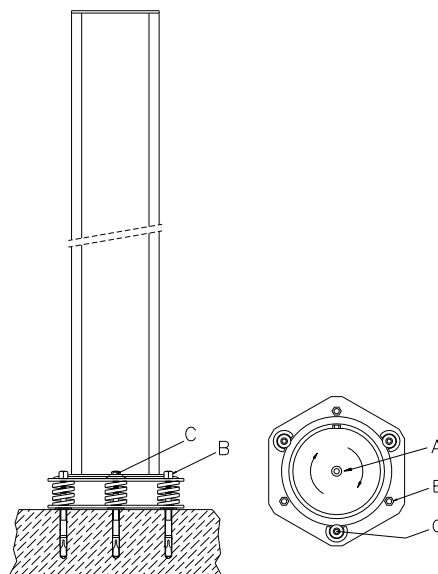

Figure 2
*To operate the regulation, act on the three hexagonal nuts B (fig.2) until the perfect levelness is reached. (Maximum adjustment: 10mm).*
## ALIGNMENT AND ADJUSTMENT (Fig: 2)